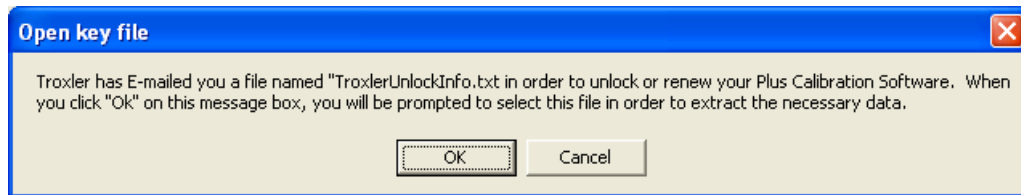

Figure 2–2. Unlocking the Software
1. On the Calibration Registration main menu (see Figure 2–1), press the **<Unlock>** button. The **Open key file** message box shown in Figure 2–2 is displayed. Click the **<OK>** button.